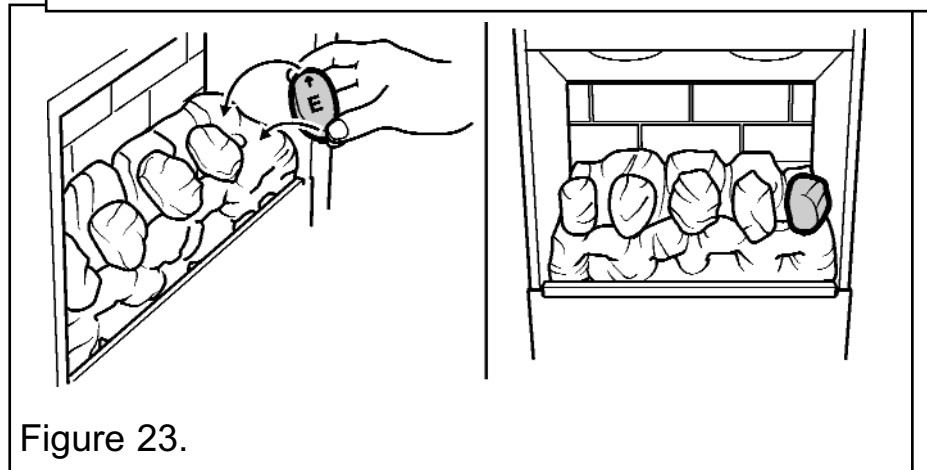

Figure 23.
6. Hold coal 'E' upright with the arrow pointing to the top. Locate coal 'E' as shown in figure 23.